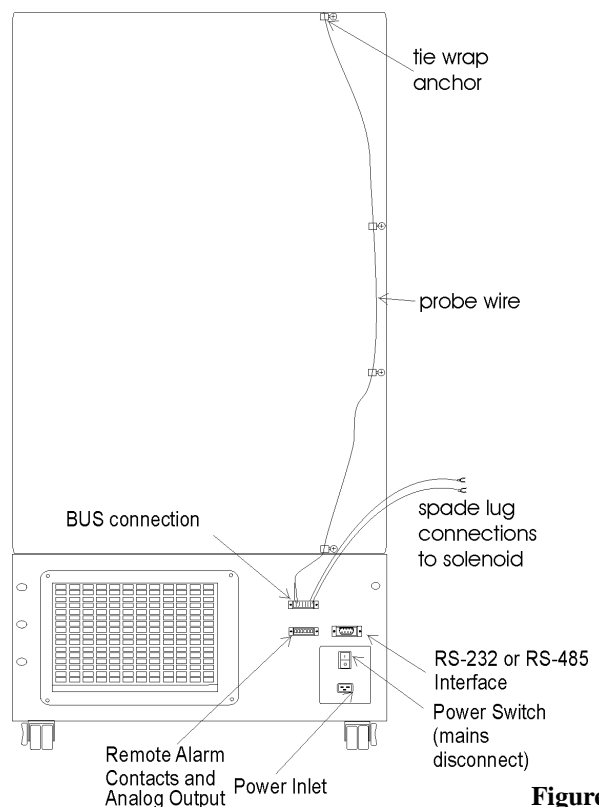

Figure 6-5
- Remove the four screws on the freezer back panel and use them to mount the tie wrap anchors as shown in Figure 6-5. Secure the probe wire with tie wraps.